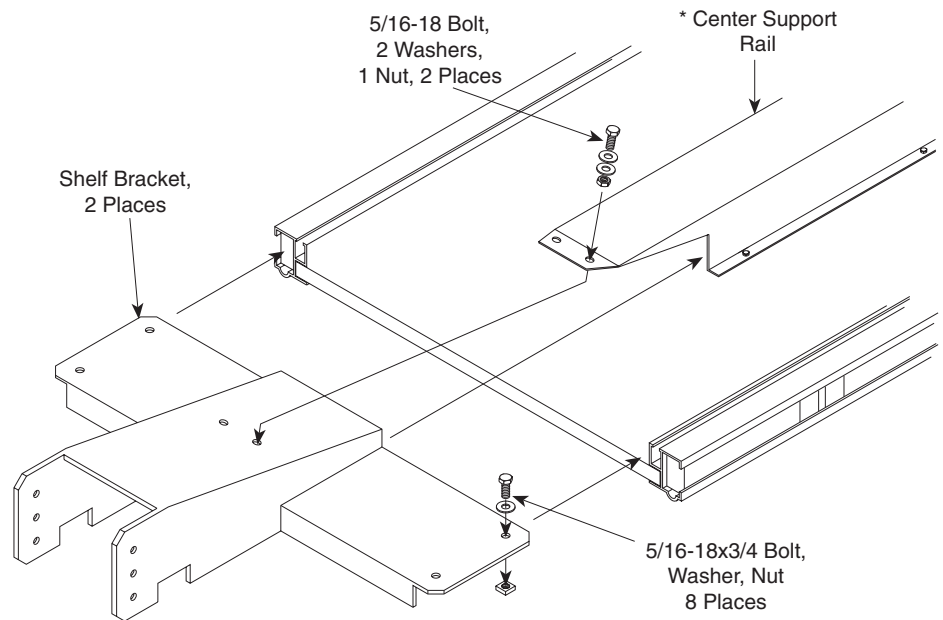

Figure 2.2 — Install Shelf Brackets
- C. Install a 5/16 washer on each of eight 5/16-18 × 3/4 bolts. Insert the bolts through the mounting holes of the two shelf brackets as shown in Figure 2.2. Place a 5/16-18 square nut on each bolt and turn the nut one full turn.
- D. Orient the two shelf brackets as shown in Figure 2.2 and slide the square nuts into the channel. Slide the brackets in until they stop against the center shelf support rail [NOTE: This rail is not present on systems with a length of 6 feet (or 2 meters) or less]. Tighten all bolts finger-tight.